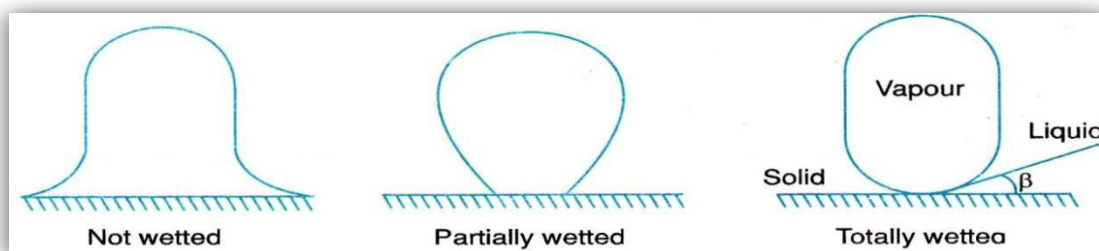

Fig. 8.4(a) Wetting characteristics for typical vapor bubbles
- If the surface tension of the liquid is low, it tends to wet the surface (fully wetted surface), so that the bubble is readily pushed by the liquid and rises. The vapor bubbles tend to become globular or oval in shape as shown in Fig. 8.4(a) (iii) and they are disengaged from the surface.
- In case of liquid having intermediate surface tension (partially wetted surface) a momentary balance may exist between the bubbles and solid surface so that it is necessary to form larger bubbles before the buoyant force can free them from the surface; the shape of the bubble is shown in Fig. 8.4(a) (ii).
- On the unwetted surface, the bubbles spread out as shown in Fig. 8.4(a) (i); forming a wedge between the water and heating surface, thereby allowing hydrostatic forces to resist the action of buoyancy.